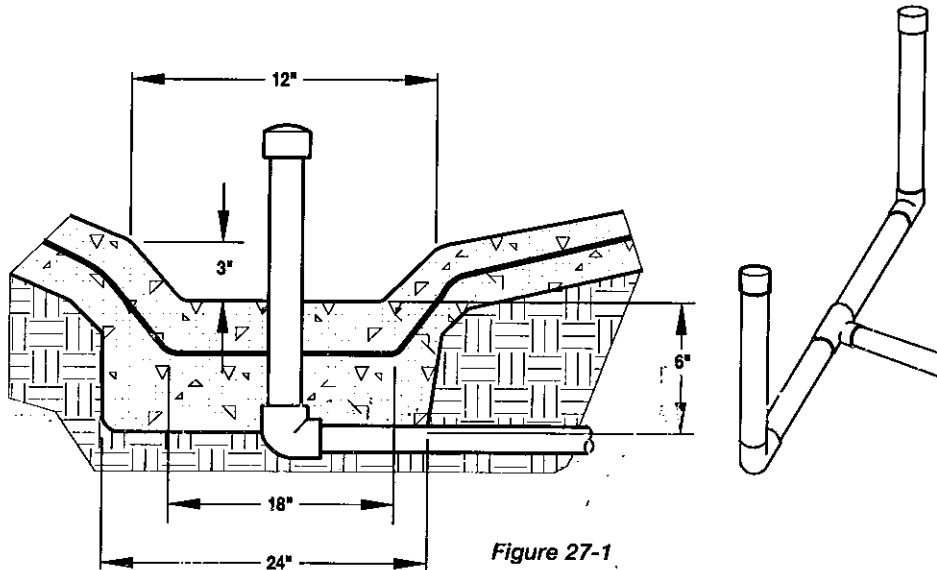

Figure 27-1
2. These dual anti-vortex main drains may require a deeper niche in the gunite than you normally cut. The ring for the anti-vortex cover will require a deeper niche and the steel dip bars must dip further so that the finished gunite niche will accept the ring for the anti-vortex cover. (See Figure 27-1 for detailed dimensions of the niche.)